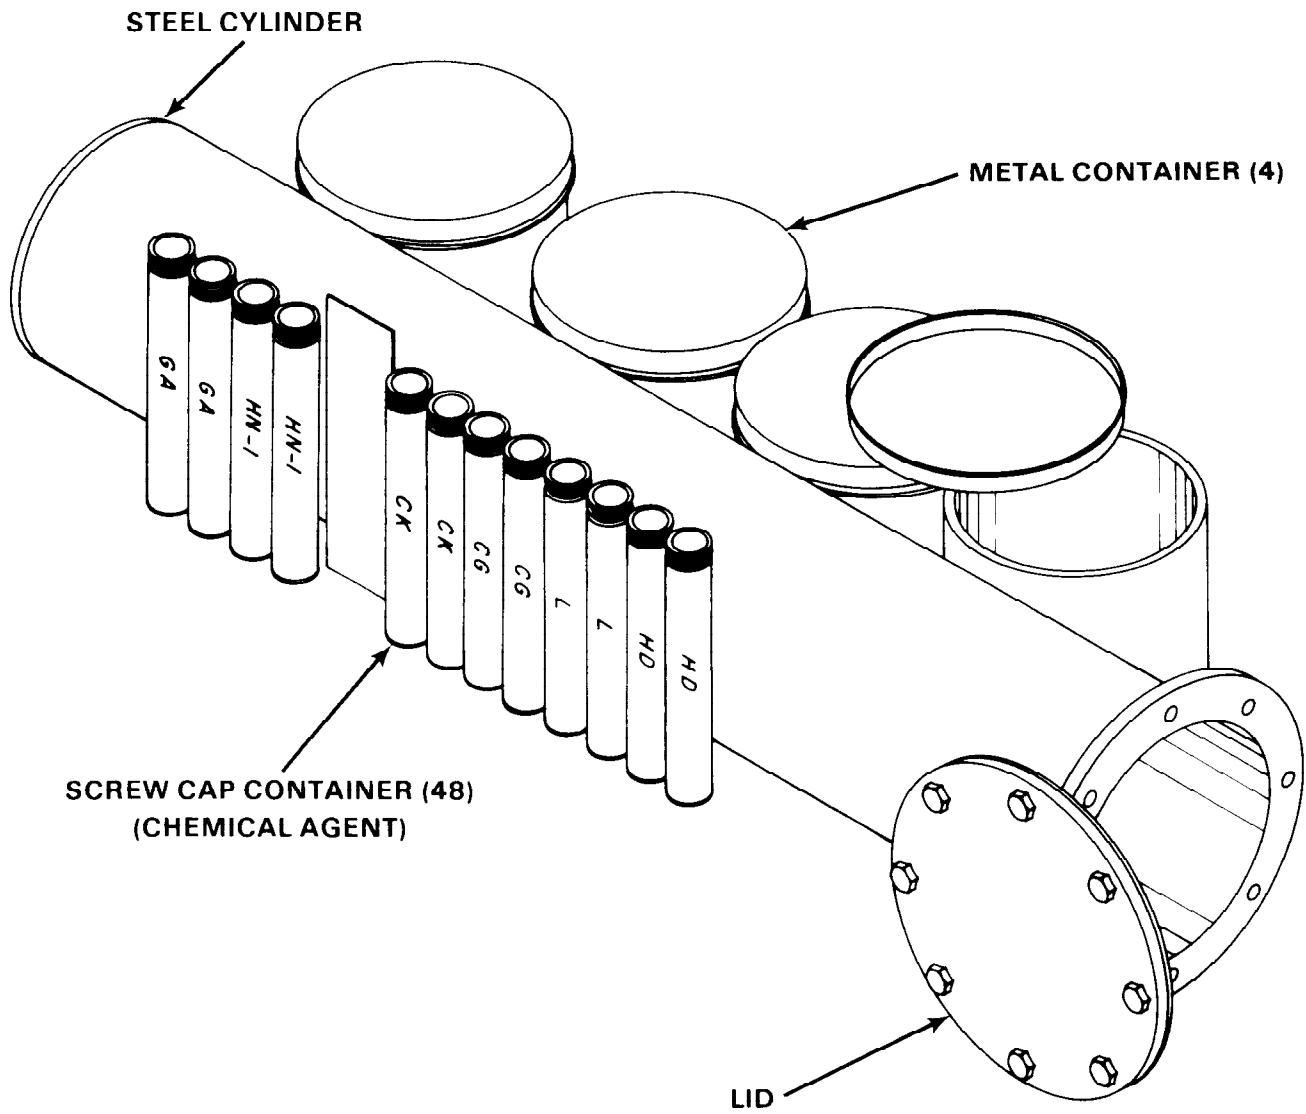

Figure 15-2.6. AN-M1A1 Detonation War Gas Identification Set
15-2.6.2. Description. The AN-M1A1 Gas Identification Detonation Set, Figure 15-2.6, consists of a cylindrical forged-steel shipping container 0.145 inch thick and approximately 38.00 inches long and 6.62 inches in diameter. The shipping container is sealed with a steel cover with a lead gasket and secured by eight bolts. Four press-fit metal containers are packed in the steel cylinder. Inside each press-fit metal container are 12 cardboard screw cap containers, each containing a hermetically sealed glass tube approximately 7.50 inches long and 1.00 inch in diameter. Each of the four metal containers contain two tubes each of the following agents: Distilled Mustard (HD), Lewisite (L), Phosgene (CG), Cyanogen Chloride (CK), Nitrogen Mustard (HN1), and GA simulant. The GA simulant is not considered a lethal agent. The agents in each of the four metal containers are as follows: